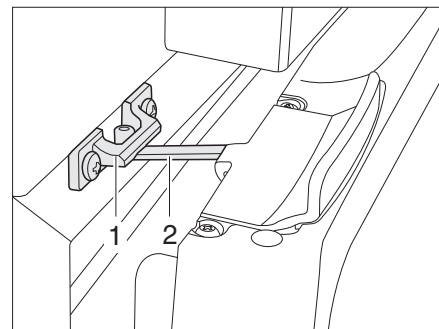

Fig. 329 Refrigerator door in ventilation position (Thetford)
- Open the lock (Fig. 329,2) and snap it into the locking catch (Fig. 329,1). The refrigerator door will then stay slightly open.